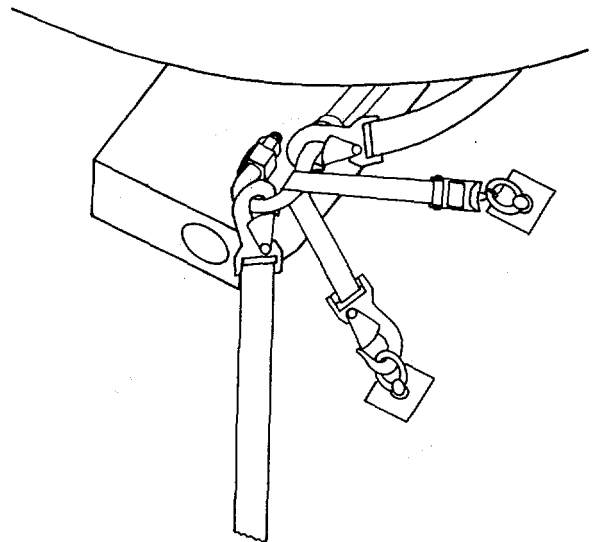

Figure 2-2. Installation and Tiedown Straps
- c. Tie down No. 1 tank as shown in Figures 2-2, 2-3, and 2-11. Use Table 2-2 to select the straps required.